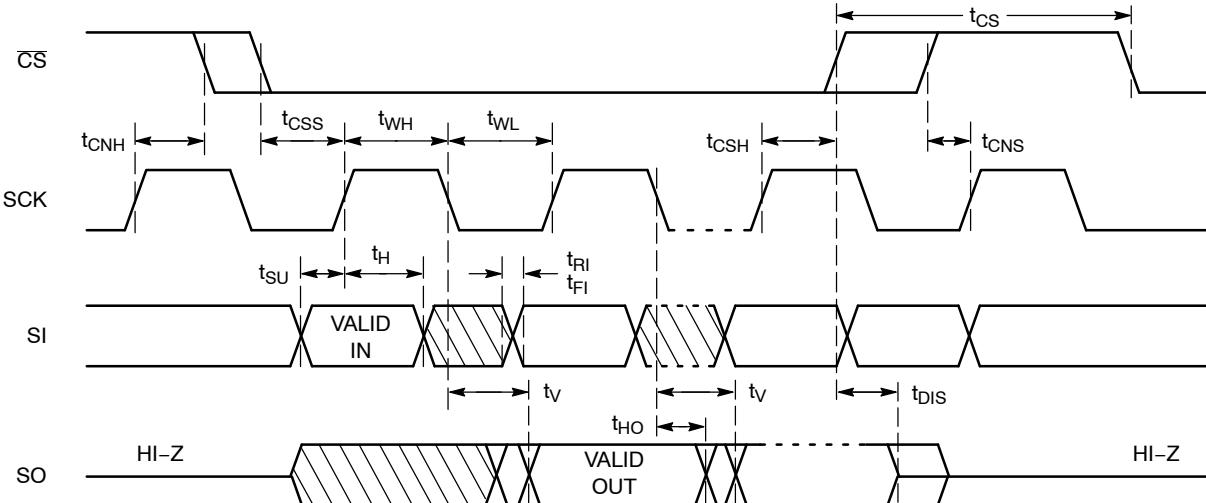

Figure 2. Synchronous Data Timing
7. All Chip Select (CS) timing parameters are defined relative to the positive clock edge (Figure 2). t_{CSH} timing specification is valid for die revision C and higher. The die revision C is identified by letter "C" or a dedicated marking code on top of the package. For previous product revision (Rev. B) the t_{CSH} is defined relative to the negative clock edge (please refer to data sheet Doc. No. MD-1122 Rev. C).
After a high to low transition on the \overline{CS} input pin, the CAT25080/160 will accept any one of the six instruction op-codes listed in Table 7 and will ignore all other possible 8-bit combinations. The communication protocol follows the timing from Figure 2.